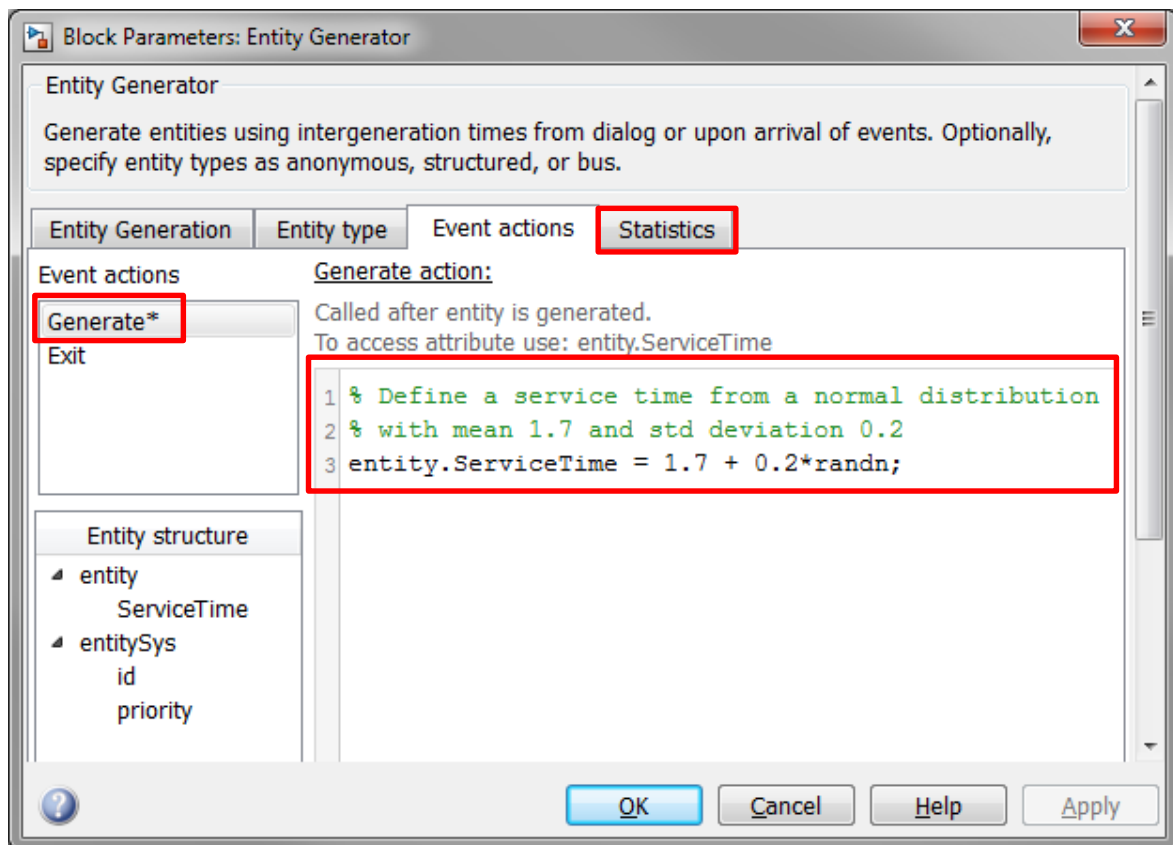

Figure 12: Define attribute values after entity generation
3. The action is expressed using MATLAB code. Attribute values can be accessed using dot notation. With this in mind, make the changes as shown in Figure 12.